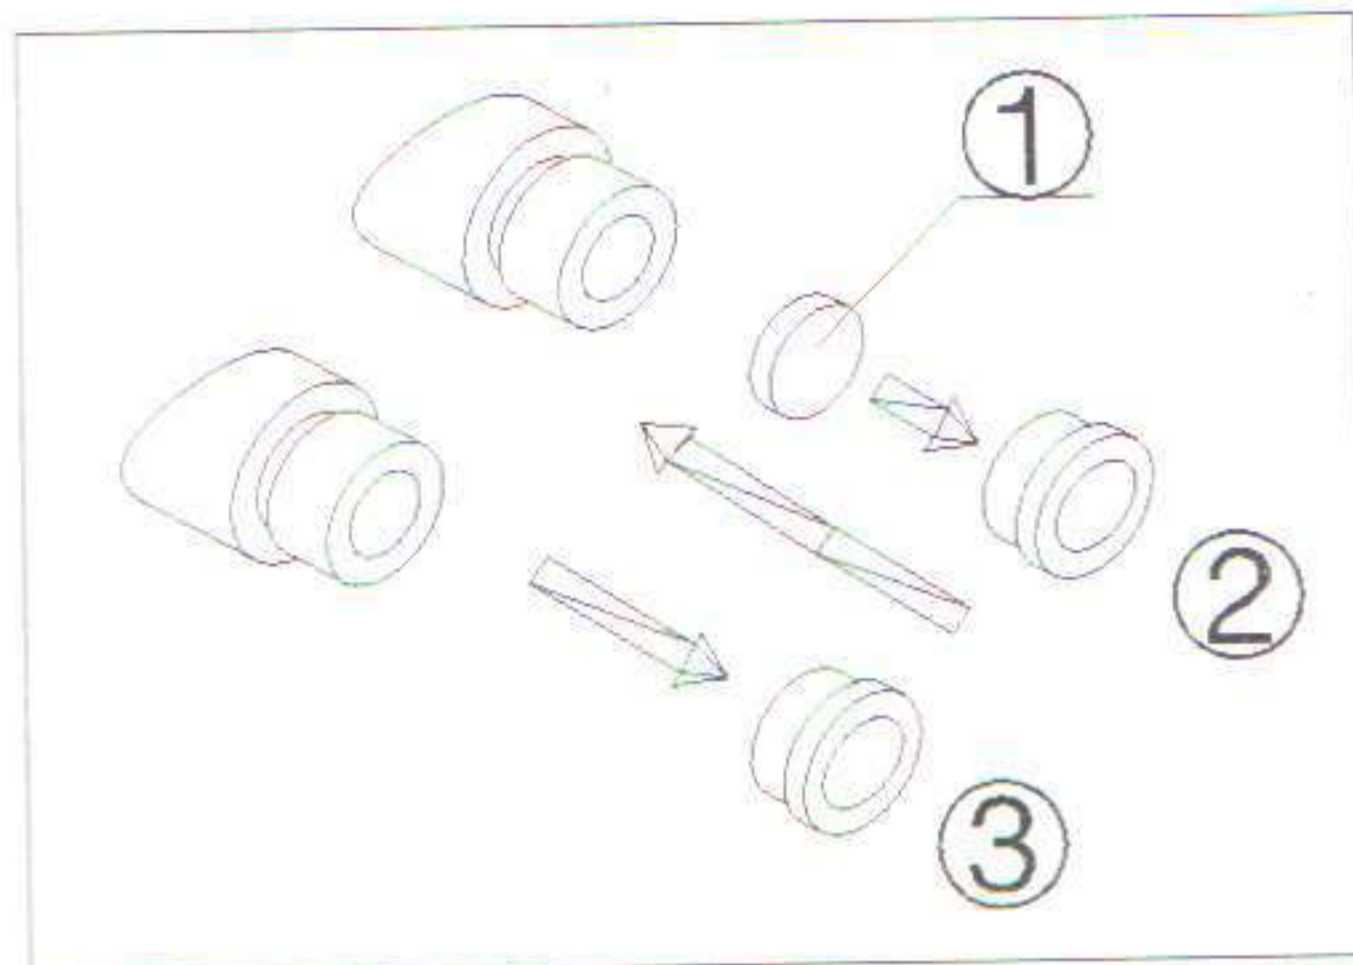

Fig. 5
- 1) Turn and remove the mounting ring (2) from the eyepiece. (Fig. 5)
- 2) Clean the eyepiece micrometer (1) and mount it to the mounting ring with the inscription side downward.
- 3) Gently twist the mounting ring with the eyepiece micrometer into the eyepiece till tightening (2) securely.